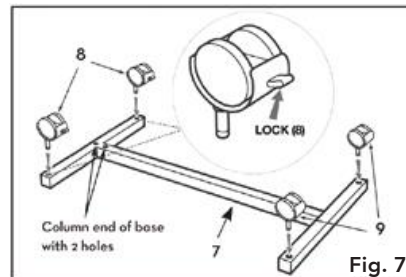

Fig. 7
6. Install two Casters with Lock (8) into H-Base (7). Install two Casters (9) into base opposite Column Assembly base (2). See Fig. 7.